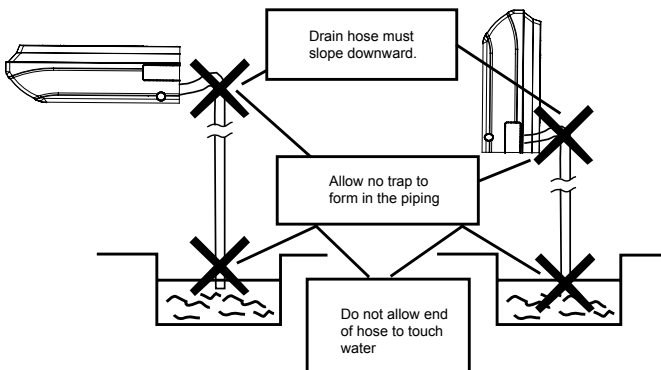

Fig.4.20
- (4) Connect the drain hose.(Fig.4.20)